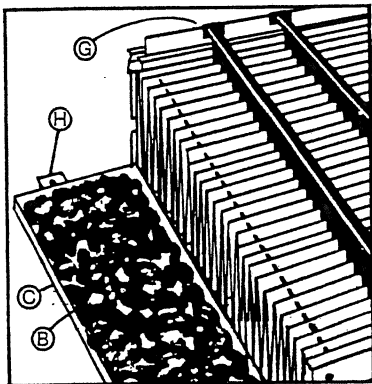

FIGURE 3
5. Place the two end panel seals (B), Figure 3 in the end panels (C).